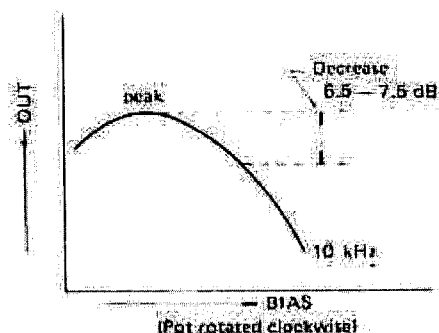

Fig. 9-5-11. Bias Level Adjustment
5. Begin the adjustments by turning trim pot R320, 100 k ohms completely counterclockwise. Next, turn the trim pot itself clockwise and the AF level meter will rise to give peak reading. Slowly continue the clockwise rotation until the reading on the level meter drops 6.5 - 7.5 dB from the peak reading as shown in Fig. 9-5-11.